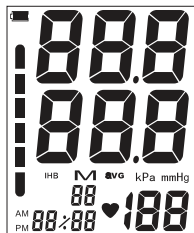

Fig. 2
4. Press the **START/STOP** button to turn the unit on; the unit will briefly flash a self-test, Fig 2.